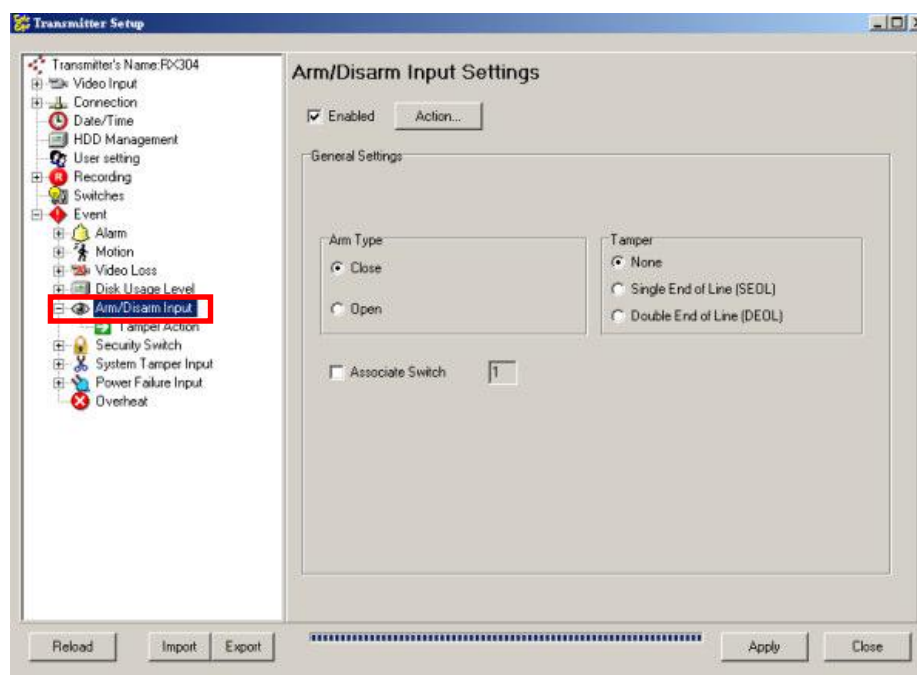

Fig 8.1.1a
Input Settings} panel as Fig 8.1.1a.
Step 1 : In {Server settings} panel, click [Event] → [Arm/Disarm Input] option to open {Arm/Disarm Input Settings} tab as shown in Fig 8.1.1a.